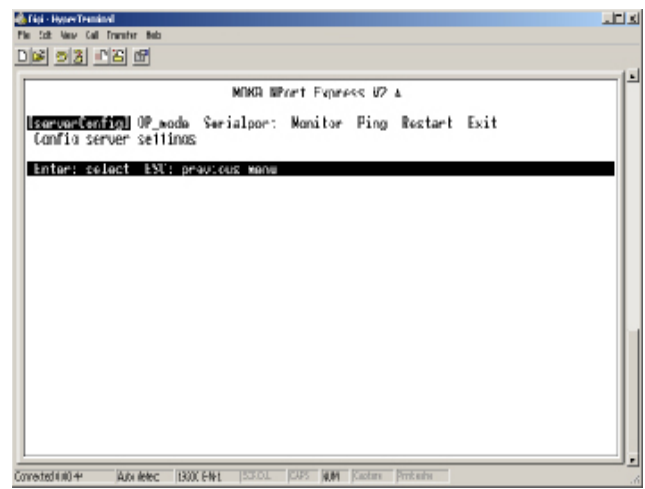

Figure 2-8
16. The “Server Configuration” window should open as shown in **Figure 2-8**.